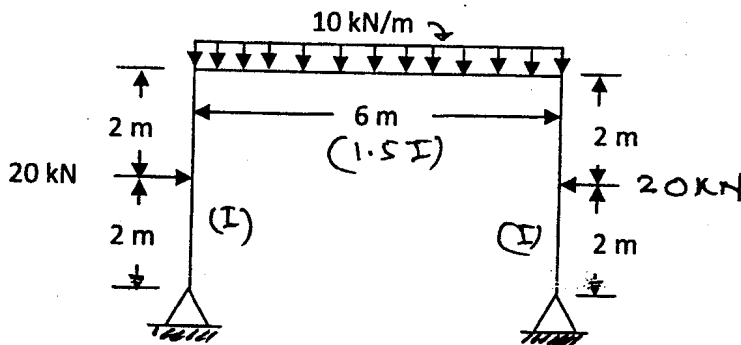

Fig. 3.
11. Analyse the frame shown in Fig. 3, using slope deflection method and draw the bending moment diagram.